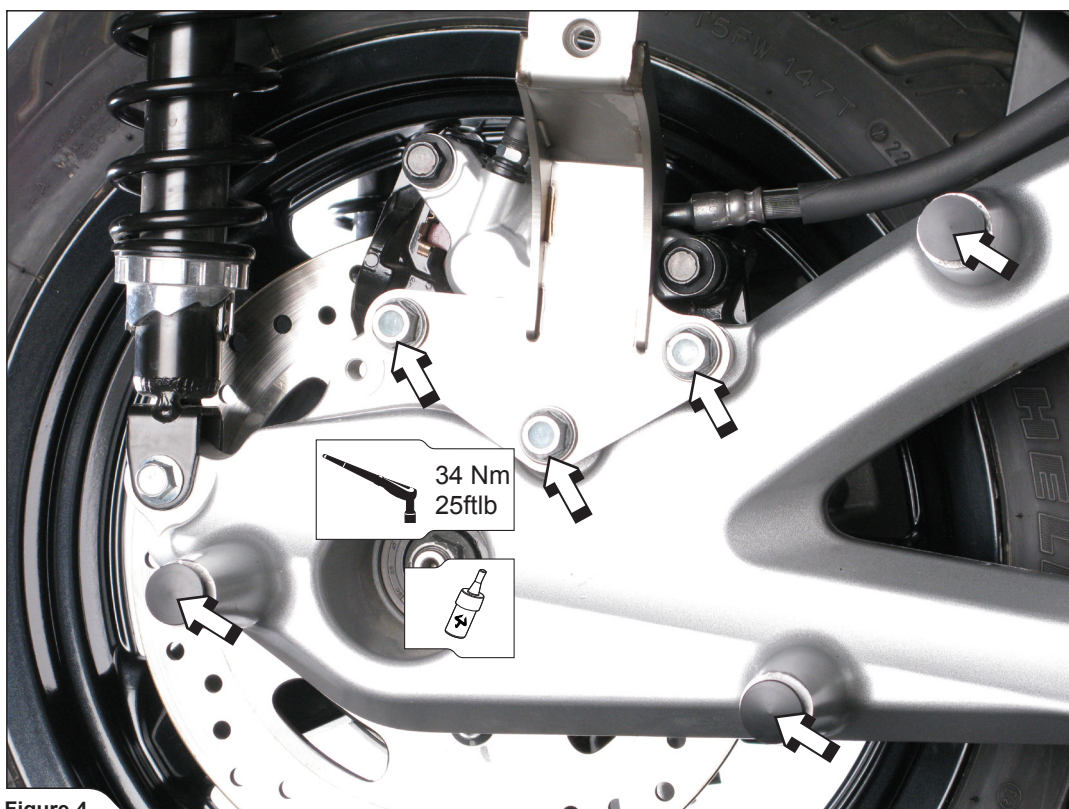

Figure 4
1. For X-MAX250 / X-CITY250 only: install the Akrapovič muffler bracket onto the brake caliper as shown, using Akrapovič bolts and washers. Tighten the bolts to a specified torque. Insert the Akrapovič PVC plugs into the stock muffler's mounting holes, use rubber mallet to tap the plugs into place (Figure 4).